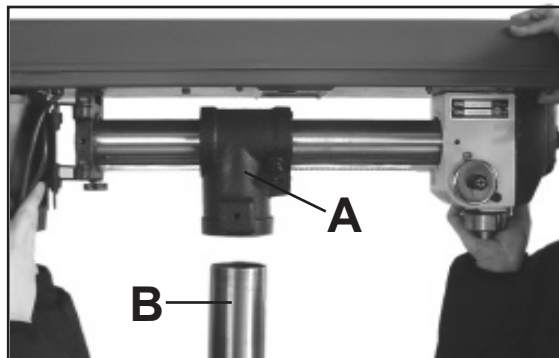

Figure 6
2. Place the drill press head (A-Fig. 6) onto the column (B-Fig. 6) as far as it will go.
5. Tighten the drill press head (A-Fig. 6) to the column (B-Fig. 6) by tightening the locking clamping lever (part# 30B) on the left side of the guide column (part# 18B).